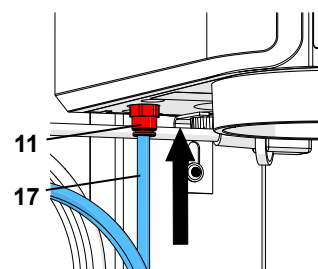

Fig. 5-a
**In previous devices, the inlet filter (12) was situated outside the device
(Fig. 5-b). In these cases, push the compressed air horse (17) onto